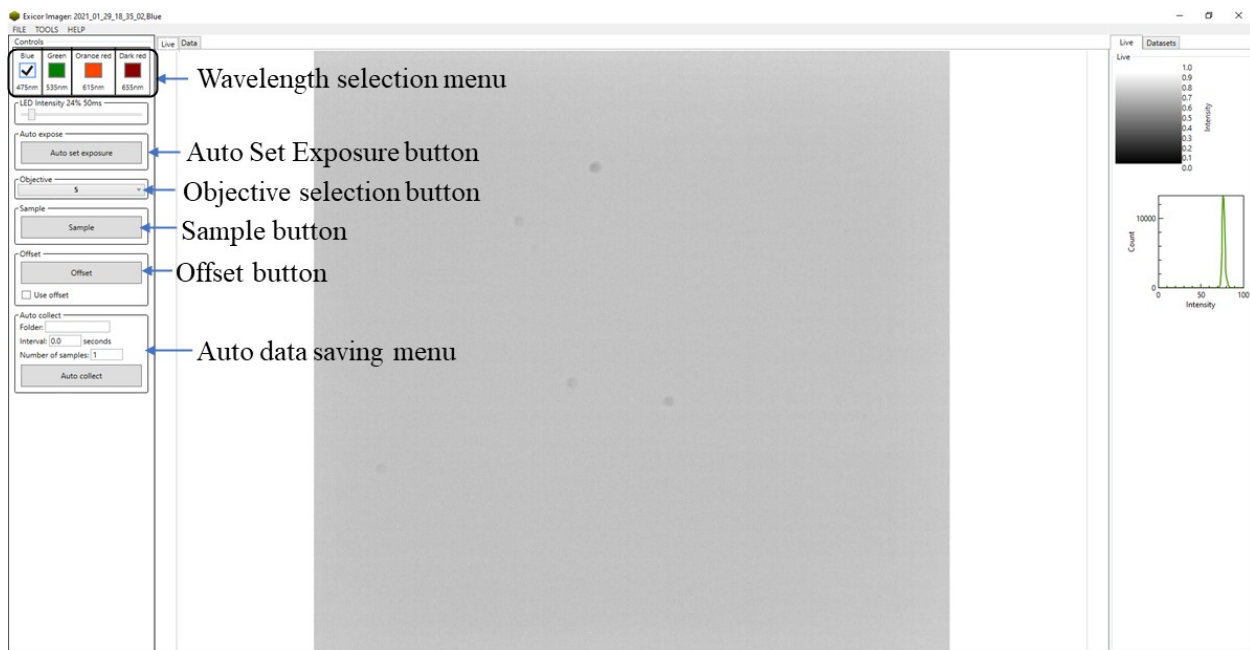

Fig. 2. Main Window
1. Turn the power switch **ON** (located on the backside of the Bottom Module) and wait for 10-15 minutes for the light source to warm up → Open the software “**Hinds MicroImager**”, then the main window will come up as shown in Fig. 2 with **Live** menu.